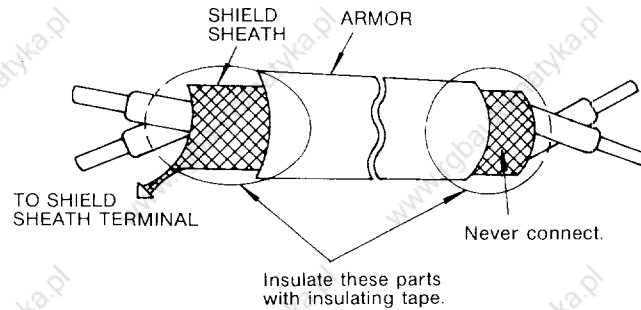

Fig. 4.2 Shielded Lead Termination
- (1) Control signal leads (1CN to 3CN) must be separated from main circuit leads (R, S, T, U, V, W) and other power lines and power supply lines to prevent erroneous operation caused by noise interference.
- (2) Use the twisted shielded lead for the control signal line, and connect the shield sheath to any of the controller terminals. See Fig. 4.2. It is recommended that the wiring distance of the signal leads be 20 meters or below.